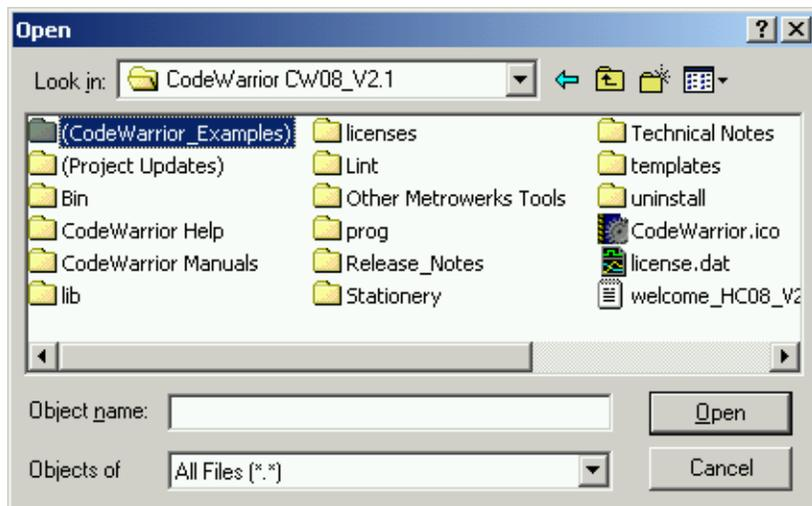

Figure 13. Find the Demo Project
3. Select (CodeWarrior_Examples) in CodeWarrior CW08_V2.1 folder and click Open. (Figure 13)